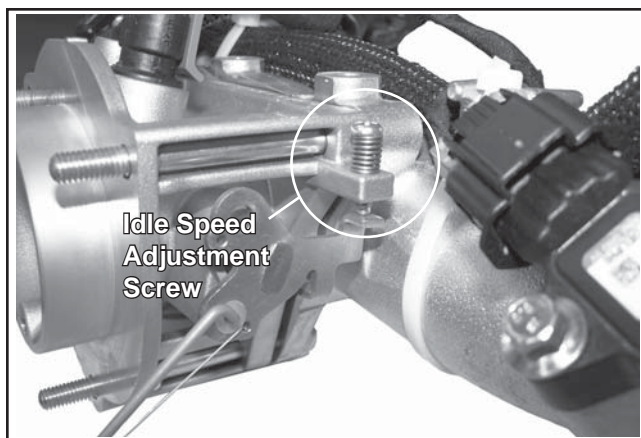

Figure 5-23. Idle Speed Adjustment.
3. Place the throttle control in the idle/slow position and check the idle speed with a tachometer. Turn the idle speed screw in or out as required to obtain **1500 RPM**, or the idle speed specified by the equipment manufacturer. See Figure 5-23.